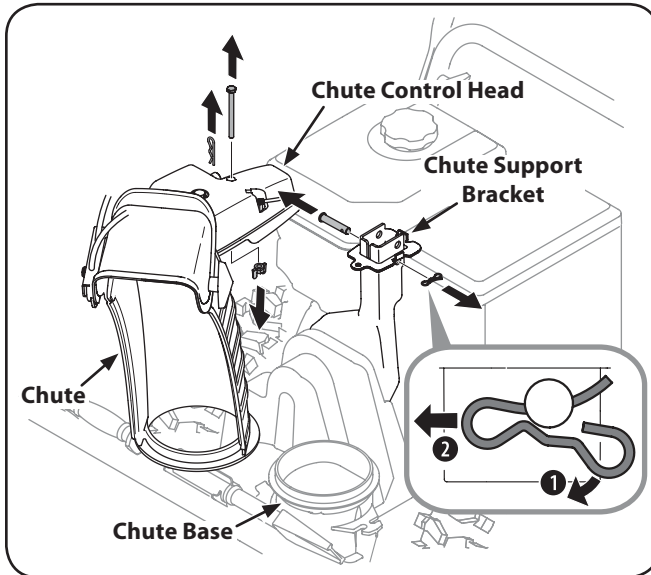

Figure 3-3
1. Remove hairpin clip, wing nut and hex screw from chute control head and clevis pin and bow-tie cotter pin from chute support bracket. See Fig. 3-3.
8. Finish securing chute control head to chute support bracket with wing nut, clevis pin, and bow-tie cotter pin removed in step 1. See Fig. 3-3.